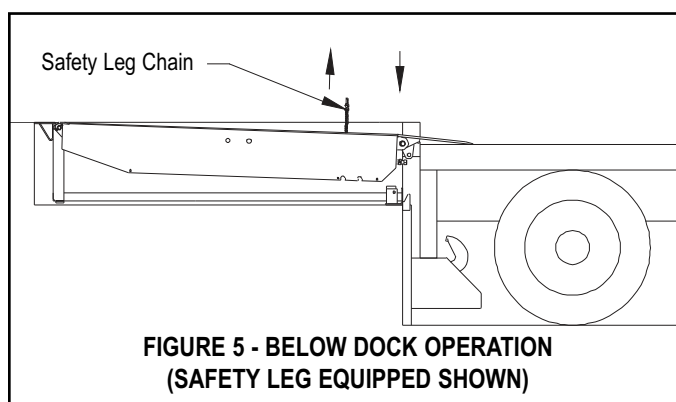

FIGURE 5 - BELOW DOCK OPERATION
2. When lip is fully extended, release RAISE button. If equipped with safety legs, pull and hold the Safety Leg Chain as the leveler lowers automatically onto the truck/trailer bed. See figure 5.